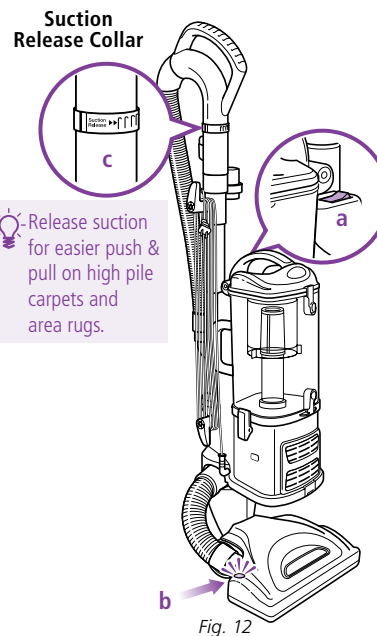

Fig. 12
- 3 Press the On/Off switch (a) to the "I" position to vacuum bare floors (straight suction only) or to the "II" position to engage the motorized floor brush (for vacuuming carpets and rugs). (Fig. 12)
⚠ **IMPORTANT:** The motorized brush indicator light (b) will illuminate green when motorized floor brush is on, or red if there is a blockage or jam. (Fig. 12) This feature is designed to protect your Lifetime Belt that powers your motorized floor brush. See Checking for Blockages on page 15.